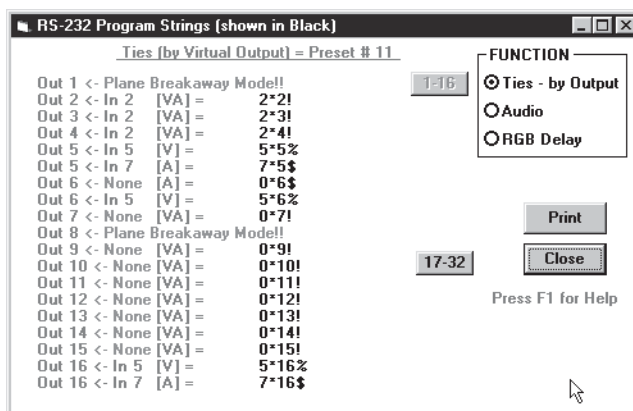

FIGURE 3-10.A
- To see the strings, click on the **TOOLS|SHOW RS-232-STRINGS** menu to show the Program Strings screen (Figure 3-10.A).